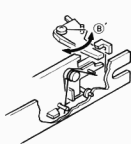

Fig. 2.
direction (C). The trigger plate's protrusion now pushes the lock plate in the direction (D) and the lock plate releases the actuator which is locked at position (E). Now the actuator moves in the direction (F) and the reset arm positions as shown in Fig. 2. In this condition, the lever moves in the direction (B)', but it does not affect to the actuator.